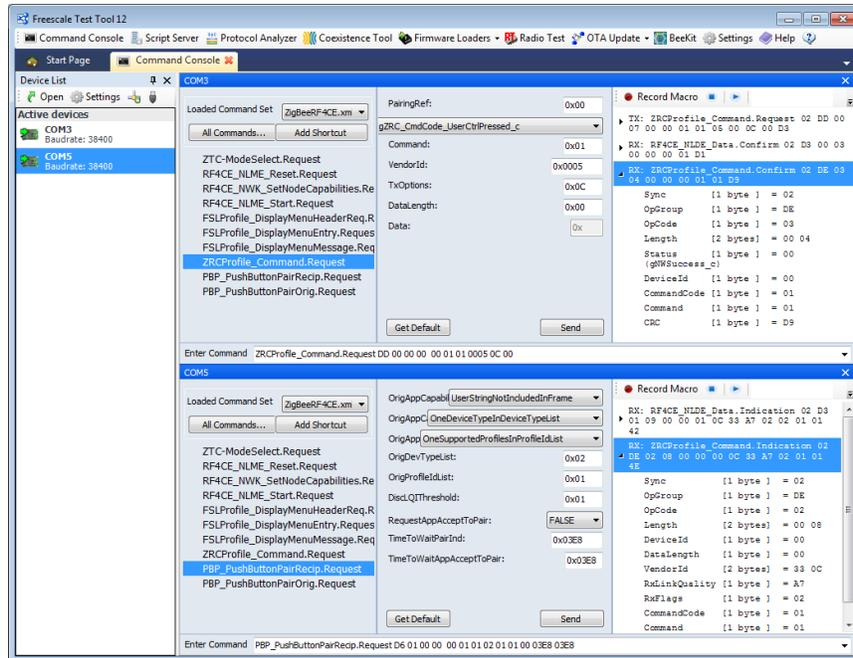

Figure 4-9. Send ZRC Command
13. On the controller device, click on All Commands ->RF4CE layer command->ZRCProfile_Command.Request and set the parameters in the Request as shown in Figure 4-9. Check the confirmation message of the request and if a ZRCProfile_Command.Indication message was received on the second device as shown in Figure 4-9.